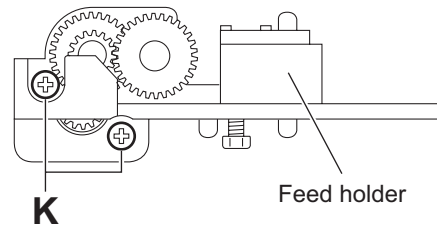

Fig.15
- From the side of the feed holder, remove the two screws **K** attaching the feed motor. (See Fig.15.)